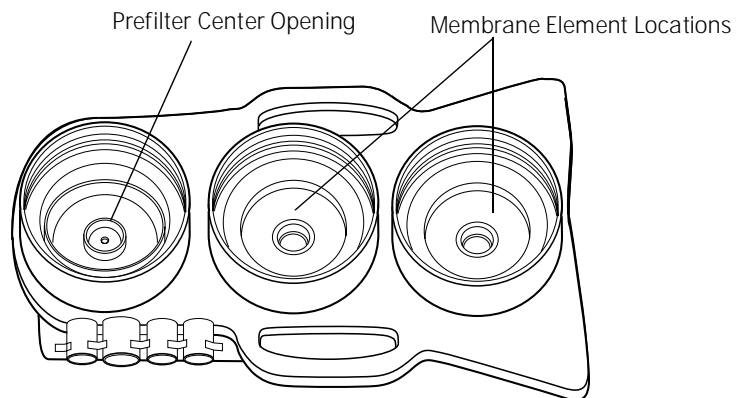

Figure 9
- B. Pour a tablespoon (15 milliliters) of chlorine bleach into the center opening of the prefilter sump connection. See Figure 9.